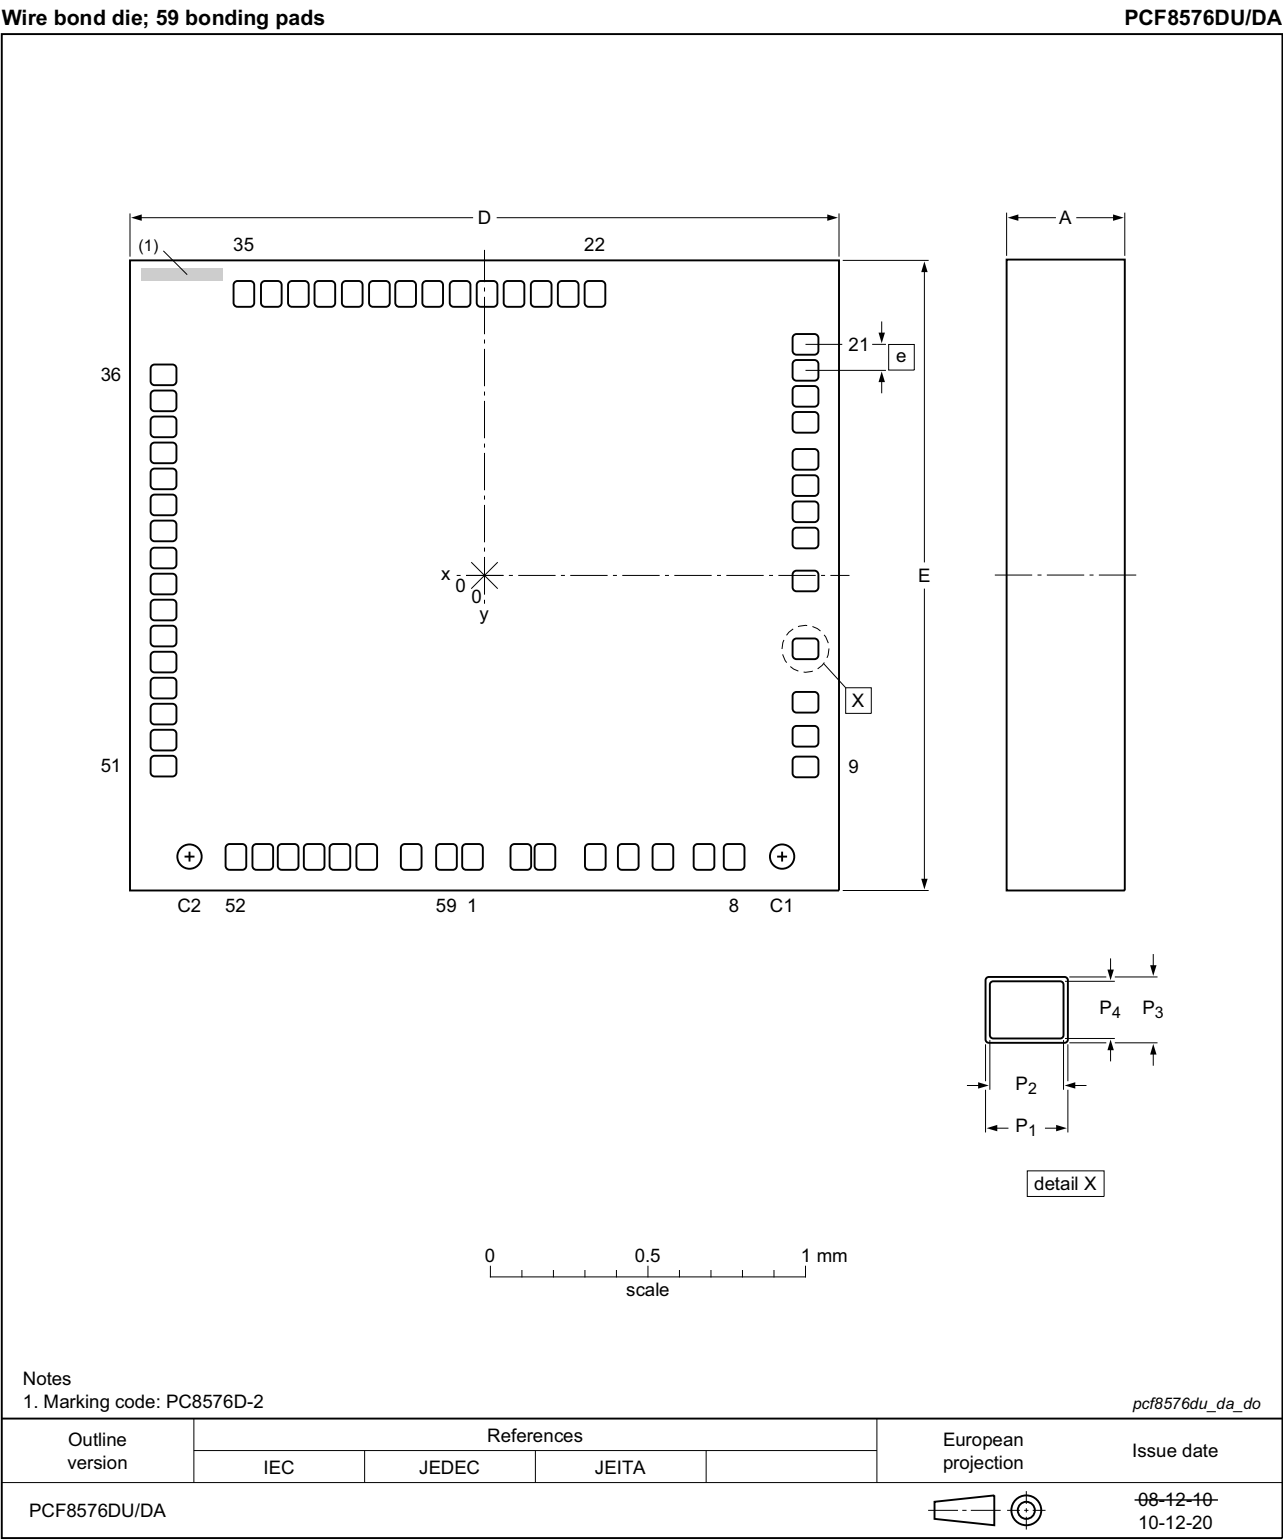
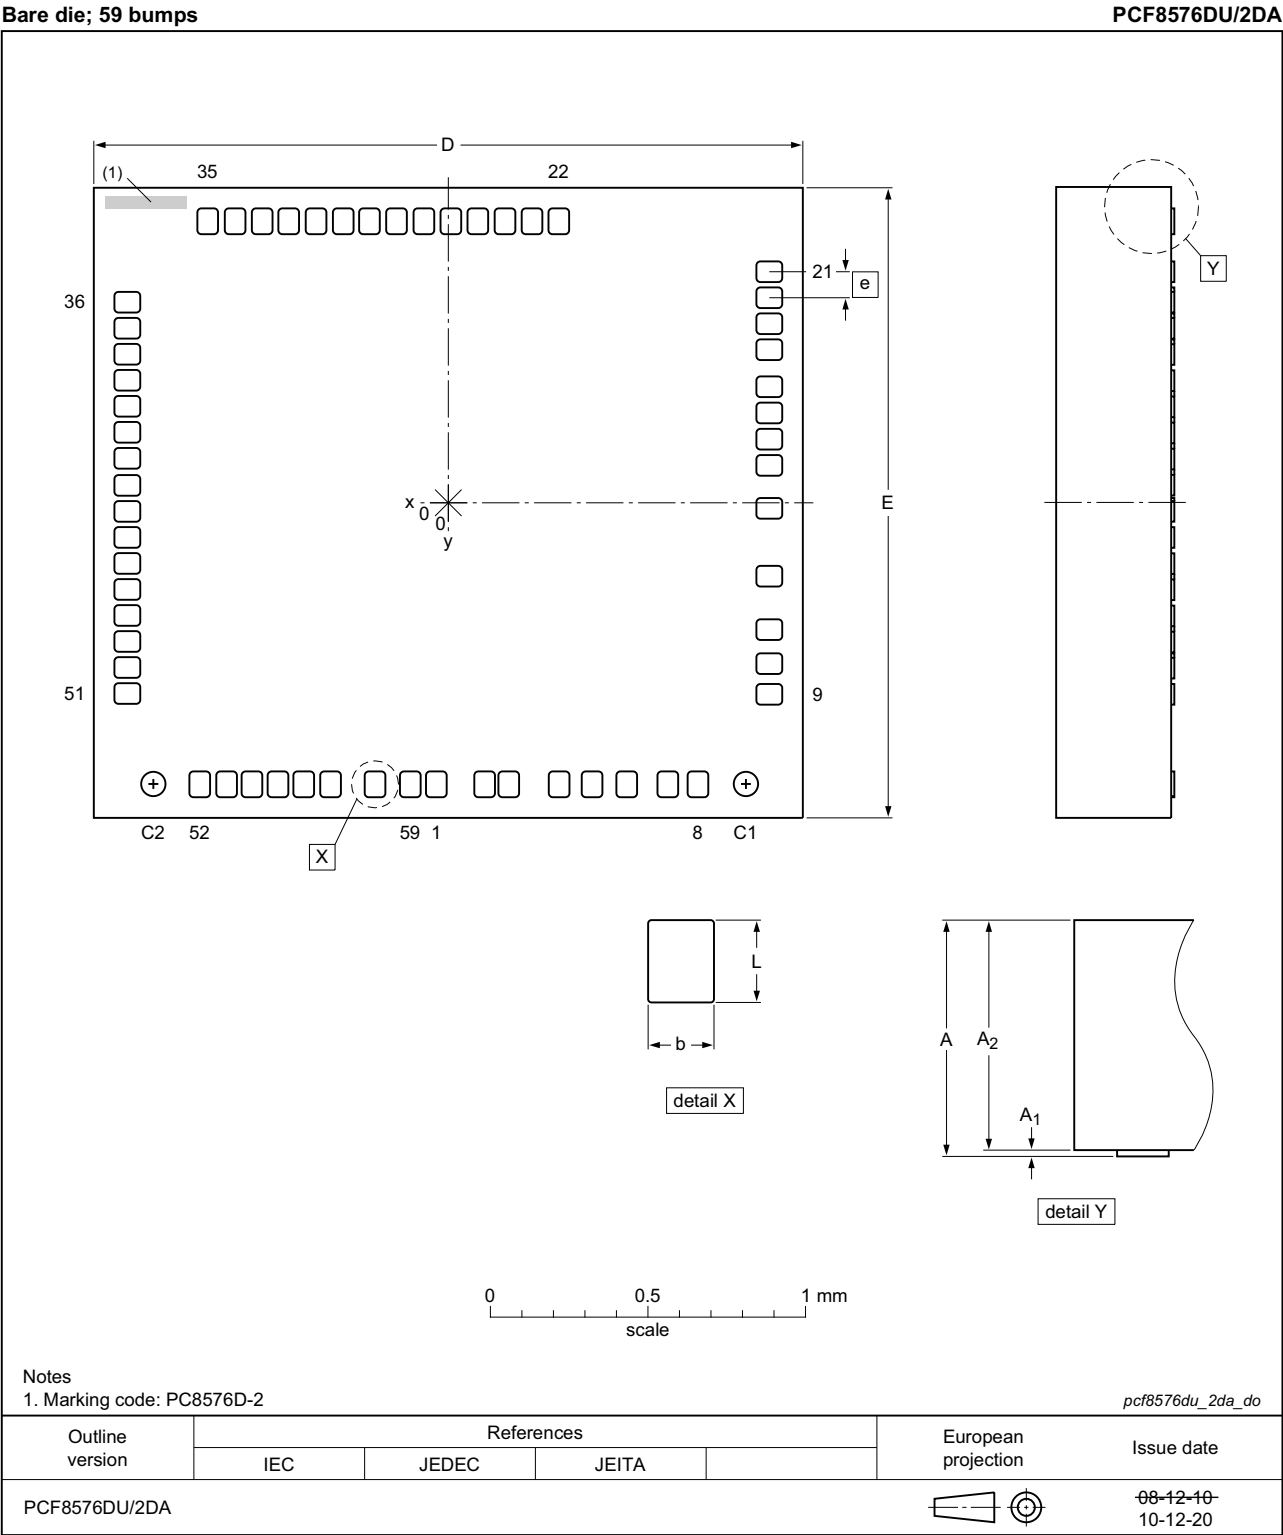

Fig 26. Bare die outline PCF8576DU/DA (for dimensions see Table 23)
Fig 27. Bare die outline PCF8576DU/2DA (for dimensions see Table 24)
**Table 25. Bonding pad location for PCF8576DU/x**All x/y coordinates represent the position of the center of each pad with respect to the center (x/y = 0) of the chip (see Figure 3, Figure 26 and Figure 27).
All x/y coordinates represent the position of the center of each pad with respect to the center (x/y = 0) of the chip (see Figure 3, Figure 26 and Figure 27).
All x/y coordinates represent the position of the center of each alignment mark with respect to the center (x/y = 0) of the chip (see Figure 3, Figure 26 and Figure 27).